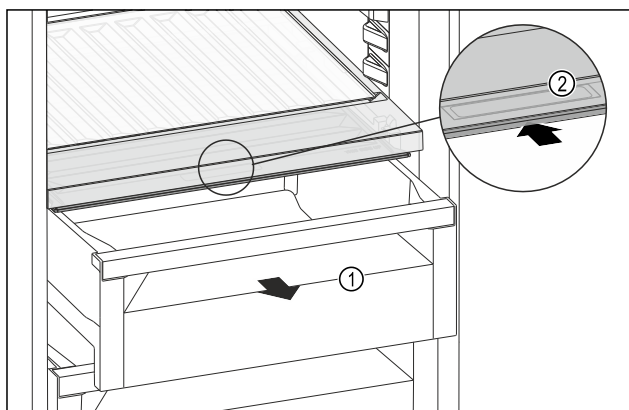

Fig. 172
- Pull out the drawer Fig. 172 (1).
- Grasp the recessed grip Fig. 172 (2) on the compartment lid and push the compartment lid backwards at the same time.